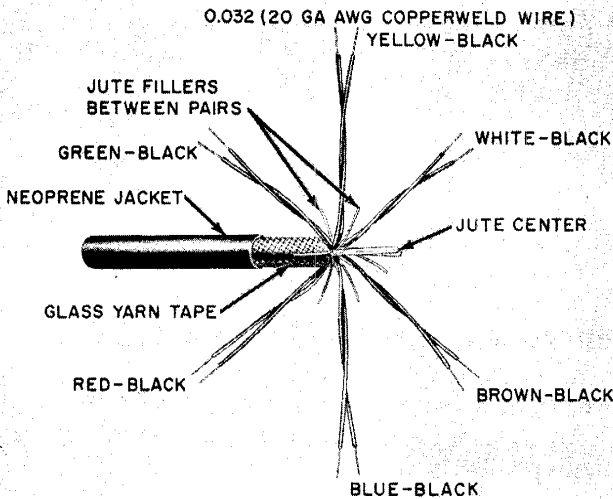

Fig. 3—B Multiple Drop Wire
**2.06** Fig. 3 illustrates the makeup of B Multiple Drop Wire which was superseded by the C Multiple Drop Wire.